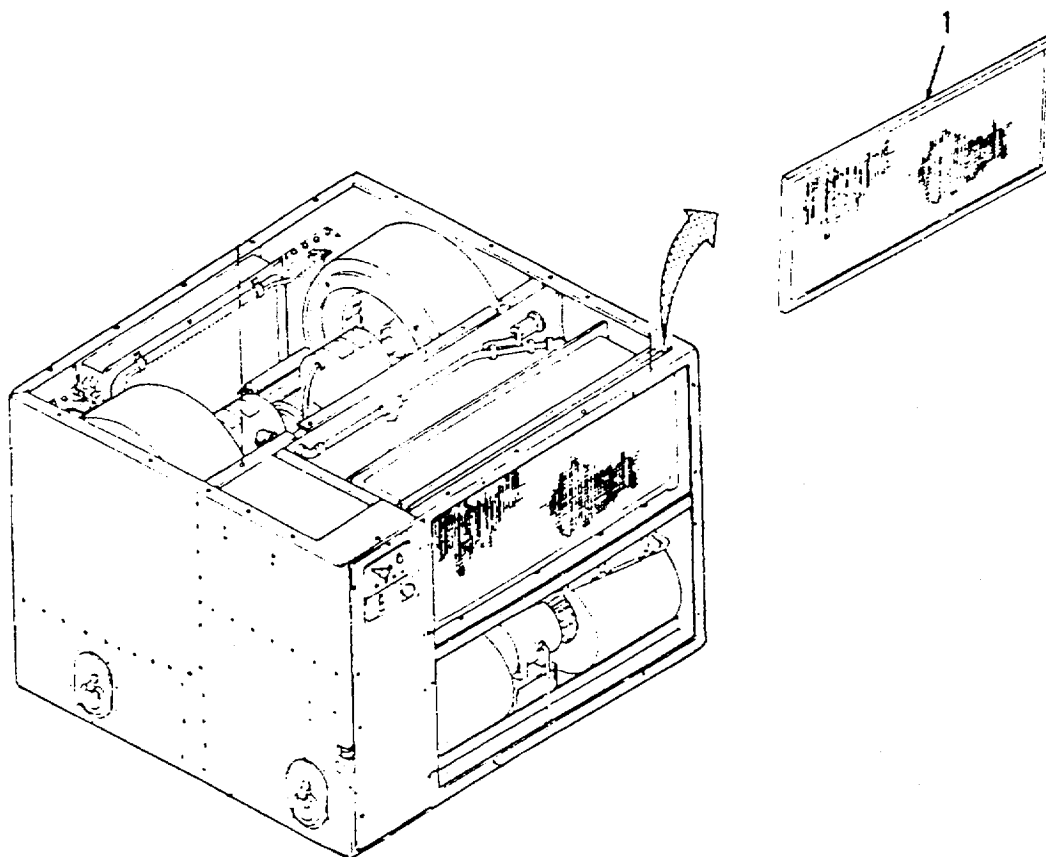

Figure 3-17. Mist Eliminator.
- a. Removal.** (Refer to Figure 3-17).